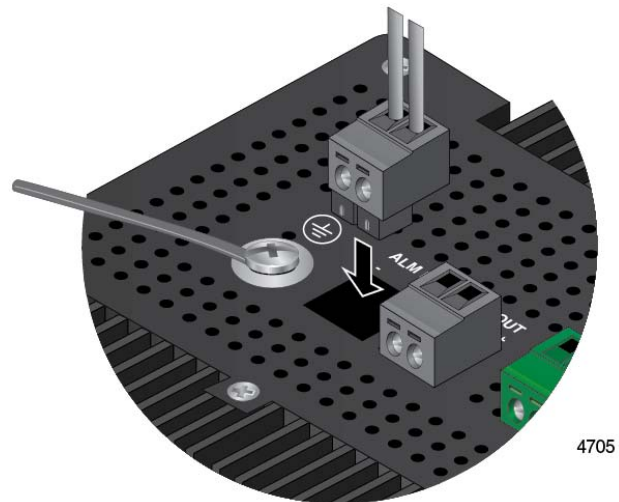

Figure 44. Inserting the DC Connector into the Alarm Connector
7. Insert the alarm connector back into its connector on the switch. Refer to Figure 44 on page 103.